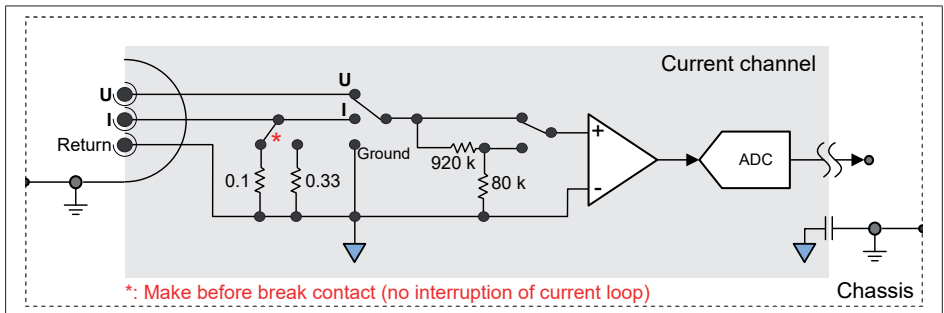

Fig. 13.6 Single-ended isolated current channel
- The isolated ground is externally accessible and is current return line, as shown in Fig. 13.6